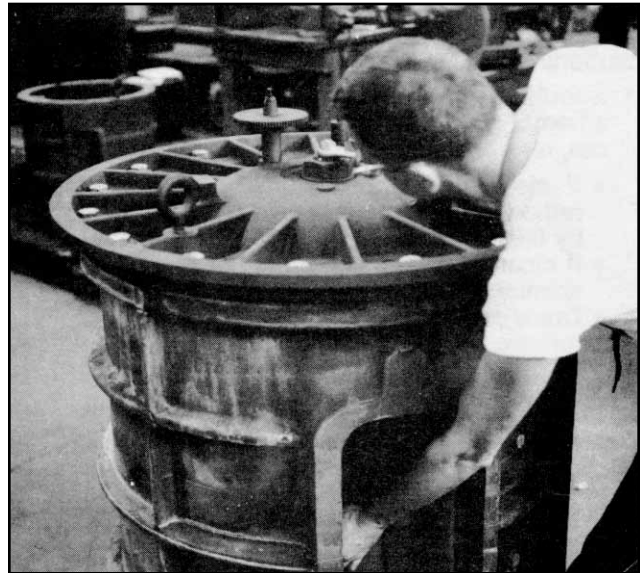

Figure 31
- Loosen the adjusting screw locknut and while turning the rotor, Figure 31, slowly raise the rotor assembly until it just begins to bind against the top cover.